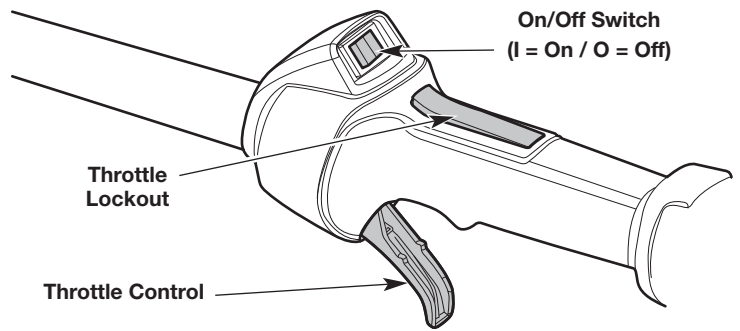

Fig. 14
NOTE: There is no need to turn the unit on. The On/Off switch is in the **On (I)** position at all times (Fig. 14).
NOTE: DO NOT squeeze the throttle control until step 8 (Fig. 14).
8. Press and hold the throttle lockout (Fig. 14). Squeeze the throttle control as needed for operation (Fig. 14).
2. Press and hold the On/Off switch in the **Off (O)** position until the engine comes to a complete stop (Fig. 14).
NOTE: **DO NOT** squeeze the throttle control until step 8 (Fig. 14).
10. Press and hold the throttle lockout (Fig. 14). Squeeze the throttle control as needed for operation (Fig. 14).